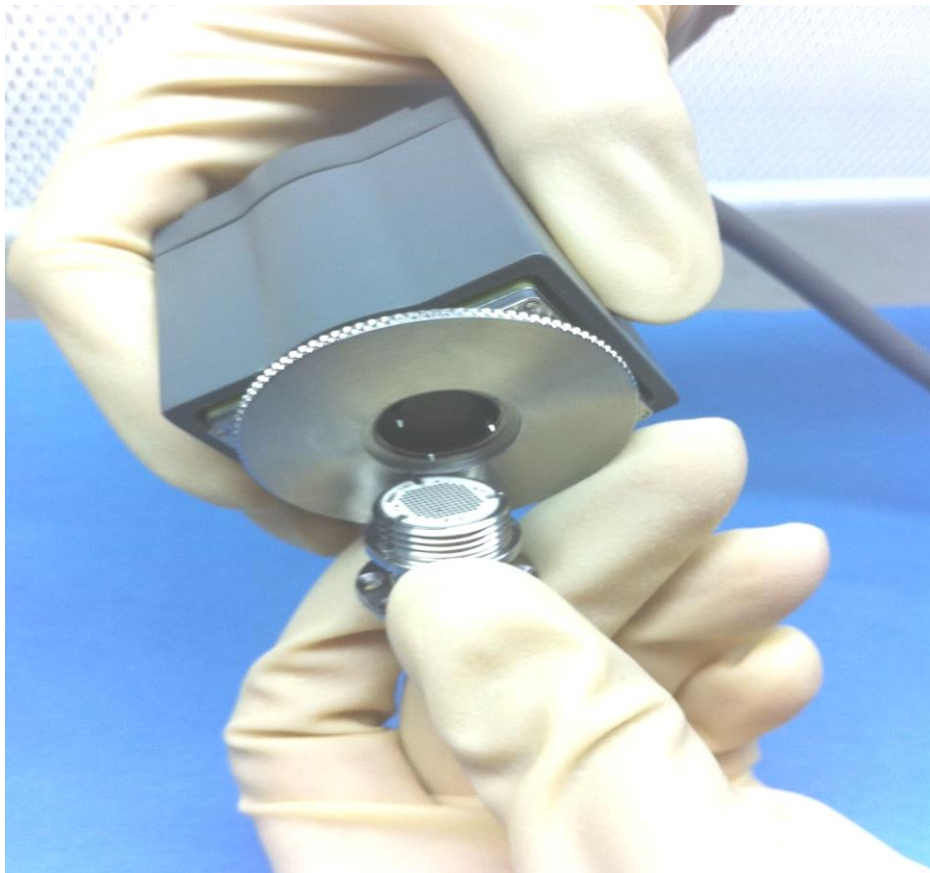

Figure 3: Aligning Pedestal and the Filament Film NeuroPort Connector
- 3) Line up the alignment pins on the connector and the pedestal as shown in Figure 3; push them together until the collar screw makes contact.